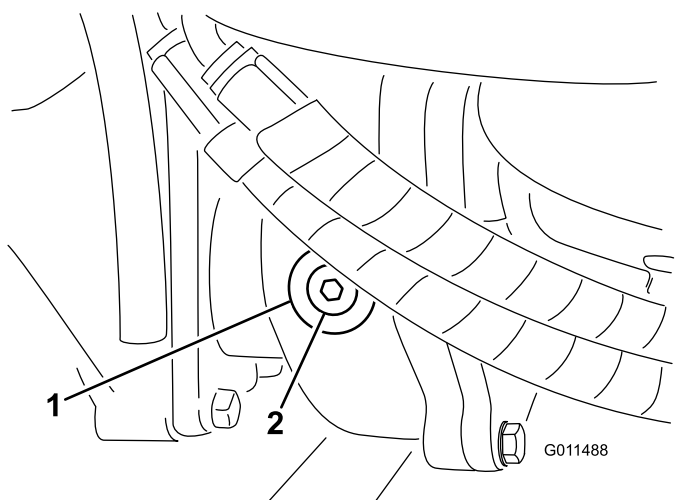

Figure 75
2. Remove the check/fill plug from the left side of the gear box and ensure that lubricant is up to the bottom of the hole (Figure 75).